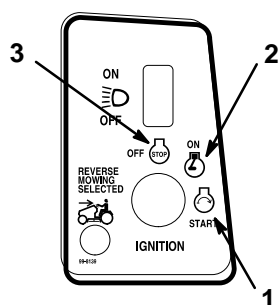

Figure 8
5. Turn the ignition key clockwise and hold it in the “START” position (Fig. 8). When the engine starts, release the key.
2. Turn the ignition key to “OFF” (Fig. 8).